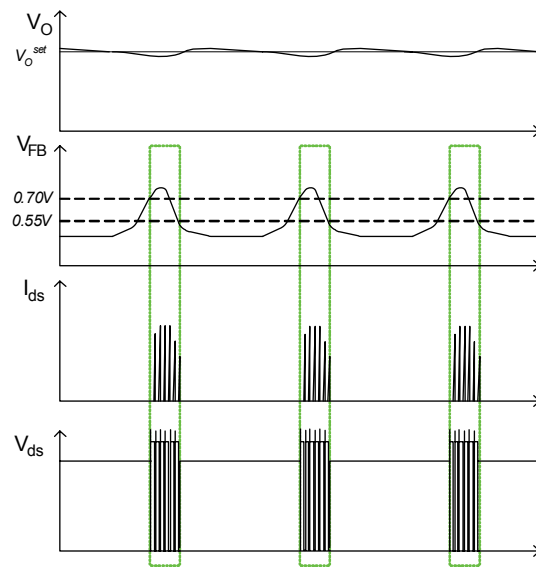

**Figure 19. Internal Soft-Start**
**5. Soft-Start:** The FPS has an internal soft-start circuit that slowly increases the feedback voltage, together with the SenseFET current, right after it starts. The typical soft-start time is 15ms, as shown in Figure 19, where progressive increment of the SenseFET current is allowed during the start-up phase. Soft-start circuit progressively increases current limits to establish proper working conditions for transformers, inductors, capacitors, and switching devices. It also helps to prevent transformer saturation and reduces the stress on the secondary diode.